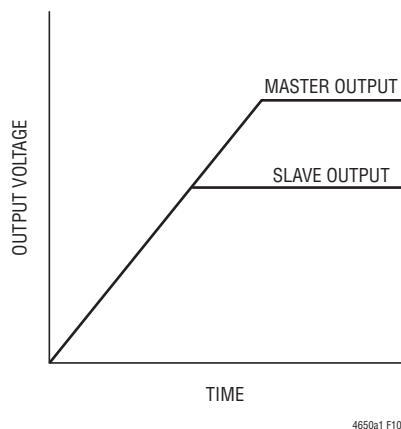

Figure 10. Output Coincident Tracking Waveform
Coincident output tracking can be recognized as a special ratiometric output tracking in which the master's output slew rate (MR) is the same as the slave's output slew rate (SR), waveform as shown in Figure 10.